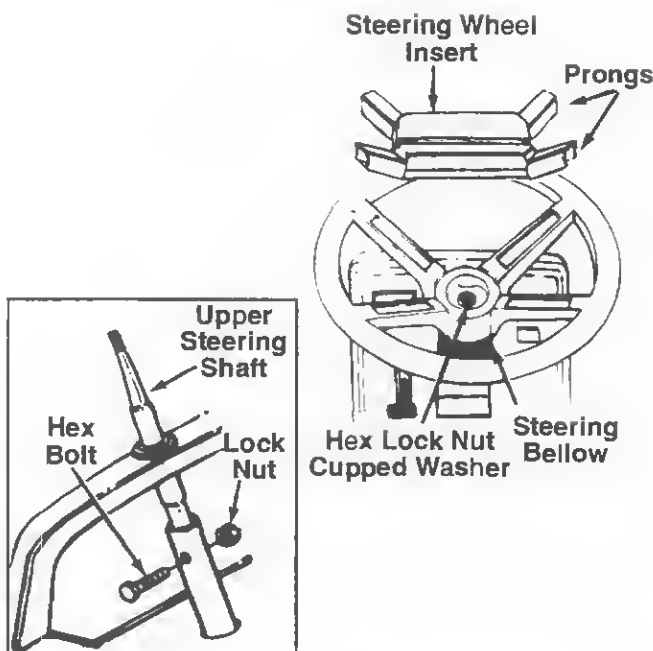

FIGURE 1.
1. **19 H.P. only:** Raise the hood on the lawn tractor and remove the hex bolt and lock nut from the lower steering shaft. Insert end (with hole) of upper shaft through the hole in dash panel, and into the lower steering shaft. Align the holes in the upper and lower steering shafts, and secure with hex bolt and lock nut just removed. See figure 1, inset.
5. Place the washer with the cupped side down over the steering shaft. Secure with hex lock nut. See figure 1.